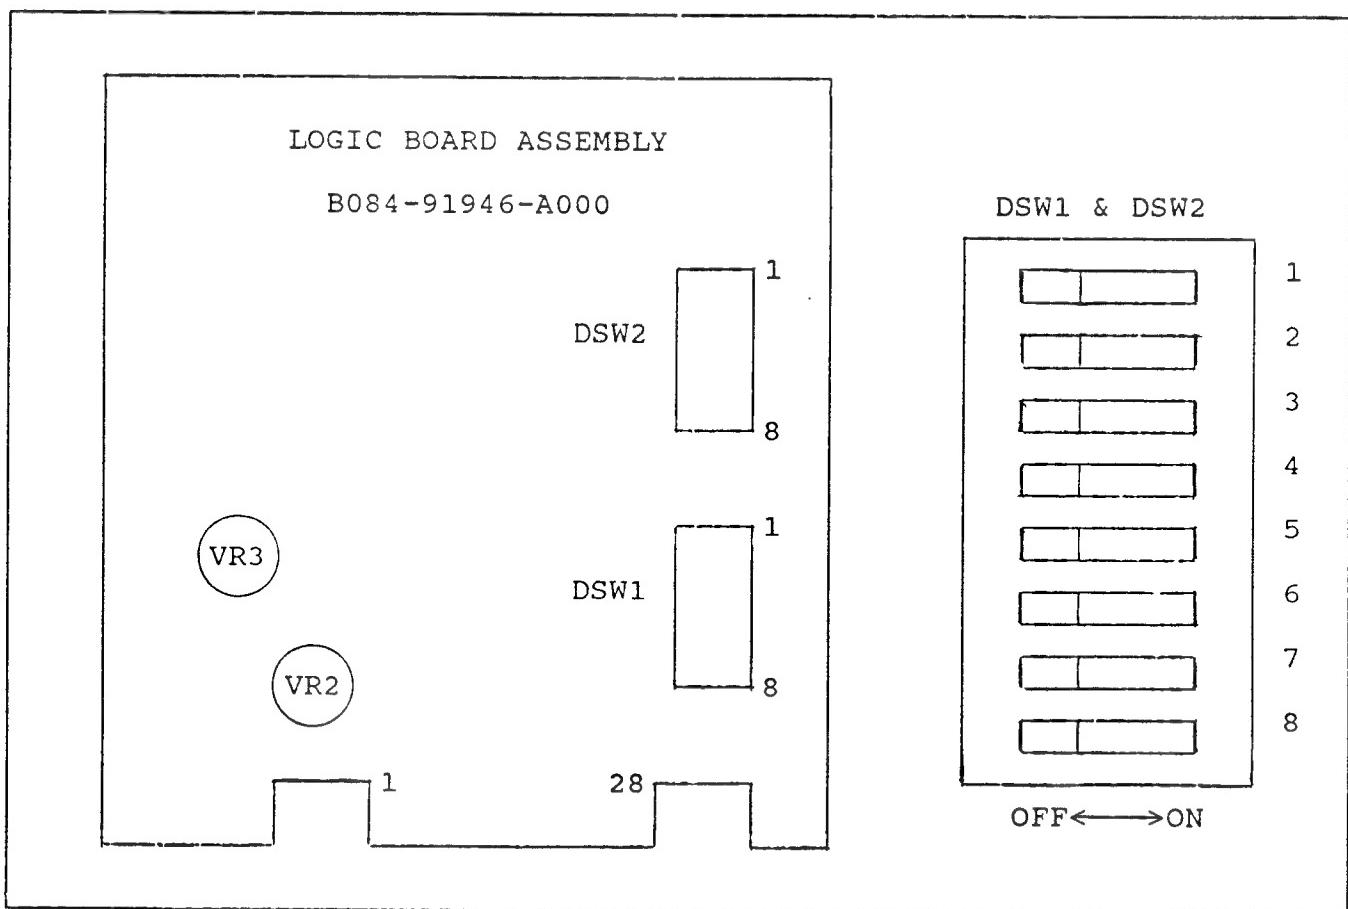

FIGURE 1 - LOGIC BOARD ASSEMBLY REFERENCE ILLUSTRATION
- o Figure 1 on page 15.
Step D - Install the new controls, supplied in the Kit, to the newly modified Control Shelf as shown in Figure 1 on page 20 and Figure 2 on page 21.
- C. Referring to Figure 1 - LOGIC BOARD REFERENCE DRAWING on page 10 and the OPTION SWITCH SETTINGS on page 11 & 12, ensure that the DIP Switches DSW1 and DSW2 are set to the Factory Recommended Settings.
Note that neither of the connectors are "keyed". Referring to Figure 1 on page 15, the number "1" appears at the left end of the edge connector on the component side of the Logic Board Assembly. On the solder side of the Logic Board, letters are used as pin numbers. For additional information, see the Wiring Chart on page 23.
There are two (2) Volume Control variable resistors located, along with two (2) Option DIP (Dual-In-Line Package) switches on the Logic Board Assembly. To locate the resistors and DIP switches, see FIGURE 1 - LOGIC BOARD ASSEMBLY REFERENCE ILLUSTRATION.
2. THE DUAL-IN-LINE PACKAGE (DIP) SWITCHES "DSW2" IS LOCATED ON THE LOGIC BOARD ASSEMBLY AS SHOWN IN FIGURE 1 ON PAGE 10.
2. THE DUAL-IN-LINE PACKAGE (DIP) SWITCH "DSW2" IS LOCATED ON THE LOGIC BOARD ASSEMBLY AS SHOWN IN FIGURE 1 ON PAGE 10.